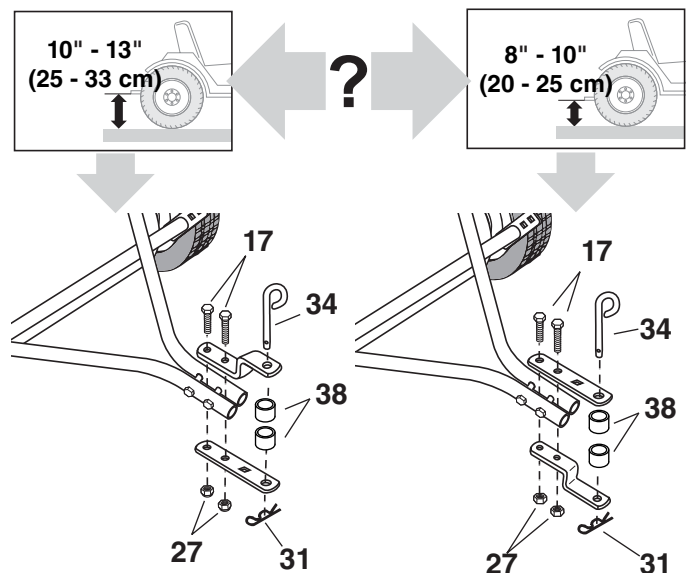

FIGURE 8
- Assemble the hitch pin (34), two spacers (38), and the large hairpin cotter (31) to the hitch brackets. See figure 8.
- Install the height adjustment handle grip (33). Assemble the height adjustment handle (2) to the **inside** of the bracket on the end of the height adjustment tube. Use two 5/16" x 1" carriage bolts (22) and 5/16" nylock nuts (27). **Tighten.**